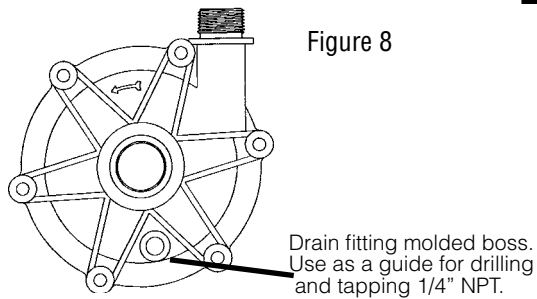

Figure 8
3. Using a 7/16" drill and the molded boss as a guide, drill completely through the molded boss into the interior of the impeller housing. De-burr the hole on the inside of the impeller housing. See Figure 8.